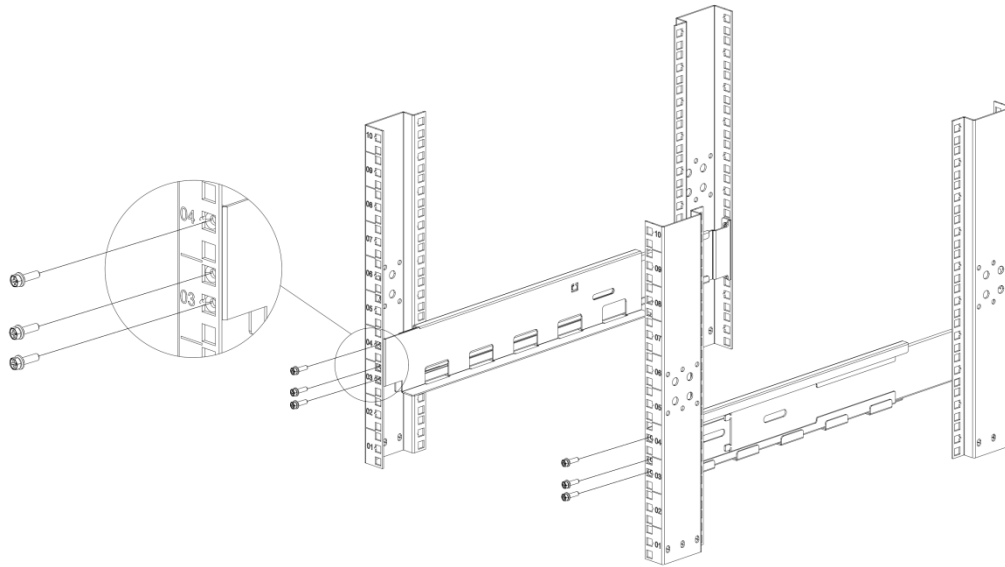

Figure 19: Install the Front Side of Rails
2. Install the front side of the rail kit with 3x Phillips Pan Head M5 screws (see Figure 19) on each rail. Do not tighten the screws.